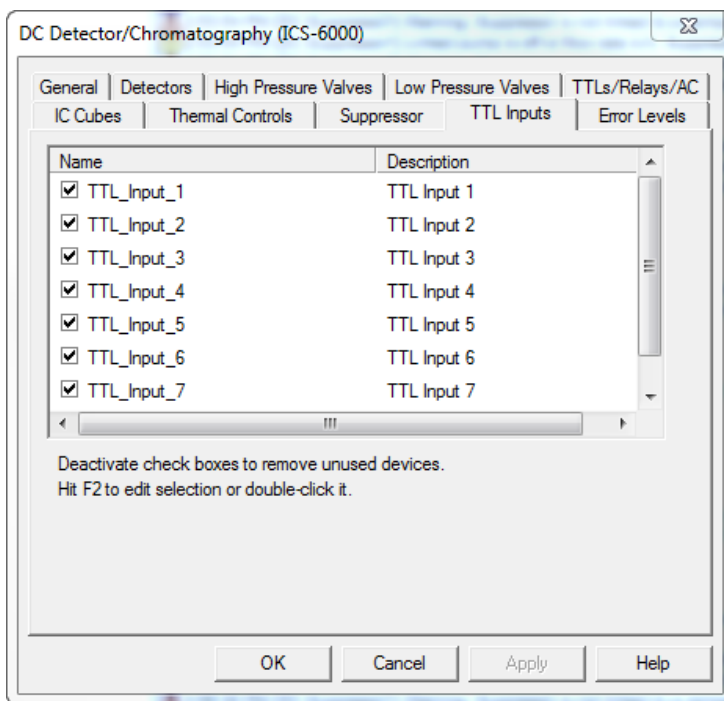

Figure 2-38. DC Instrument Configuration Properties: TTL Inputs
3. Select the **TTL Inputs** tab (see Figure 2-38).